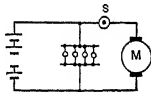

Fig. 47. Starting motor and lamps of an automobile in parallel across storage battery.
**Prob. 25-2.** When the self-starter switch *S* (Fig. 47) of an automobile is closed, it places the starting motor and the lights across the storage battery which under these conditions has a terminal voltage of 3.5 volts. The motor requires 200 amperes to turn it over and the lamps ordinarily require a total current of 10 amperes when operating normally on 6 volts. Assuming that the lamps do not change their resistance, what total current is demanded of the battery at the instant of starting? What is the internal resistance of the storage battery if its e.m.f. is 6 volts?